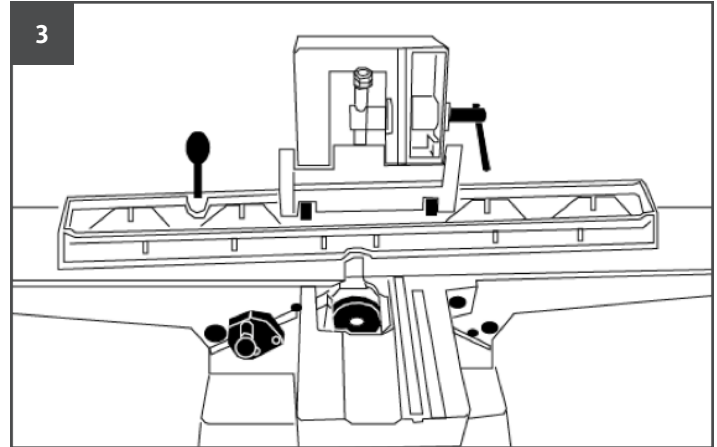
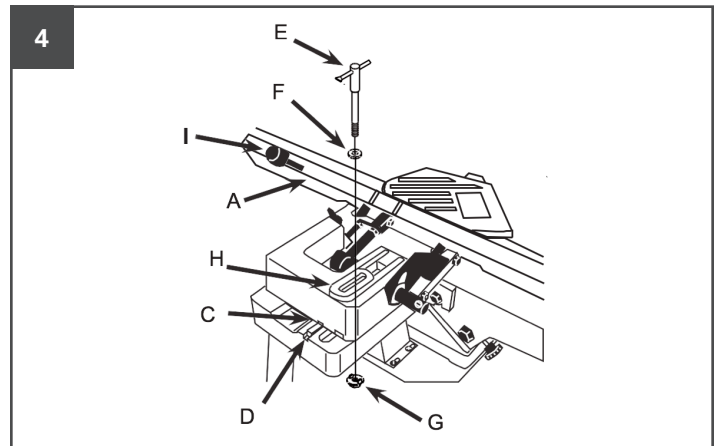

FIGURE 3: INSTALLING FENCE
FIGURE 4: INSTALLING FENCE
1. Place the **FENCE ASSEMBLY (A)** onto the bed. See Figure 3. Align the **KEY STOCK (D)** on the bed with the **CHANNEL (C)** in the fence. See Figure 4.
2. Place the **FLAT WASHER (F)** on **HOLE (H)**. Insert the **LOCK HANDLE (E)** through the fence casting and the bed casting.
3. Thread the **LOCK NUT (G)** onto the **LOCK HANDLE (E)**. Ensure the tab on the **LOCK NUT (G)** faces up and engages the slot in the bed casting. See Figure 4.
4. Thread the **FENCE TILT LEVER (I)** into the hole in the back of fence. See Figure 4.